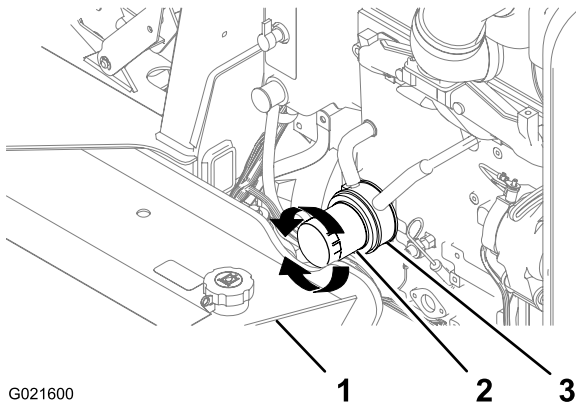

Figure 45
2. Place a small drain pan under the oil filter and the oil-filter adapter (Figure 45).
3. Rotate the oil filter counterclockwise and remove the oil filter (Figure 45).
7. Align the new oil filter to the oil-filter adapter and rotate the filter clockwise until the seal of the oil filter contacts the oil-filter adapter (Figure 45).
8. Hand tighten the oil filter an additional 1/2 turn (Figure 45).